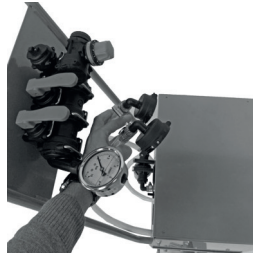

Figure 2
3. Connect the two tank hoses (absorption and return) to the regulating valve. To do this, the pin must be removed and once inserted, replace it (figure 2 and 3)